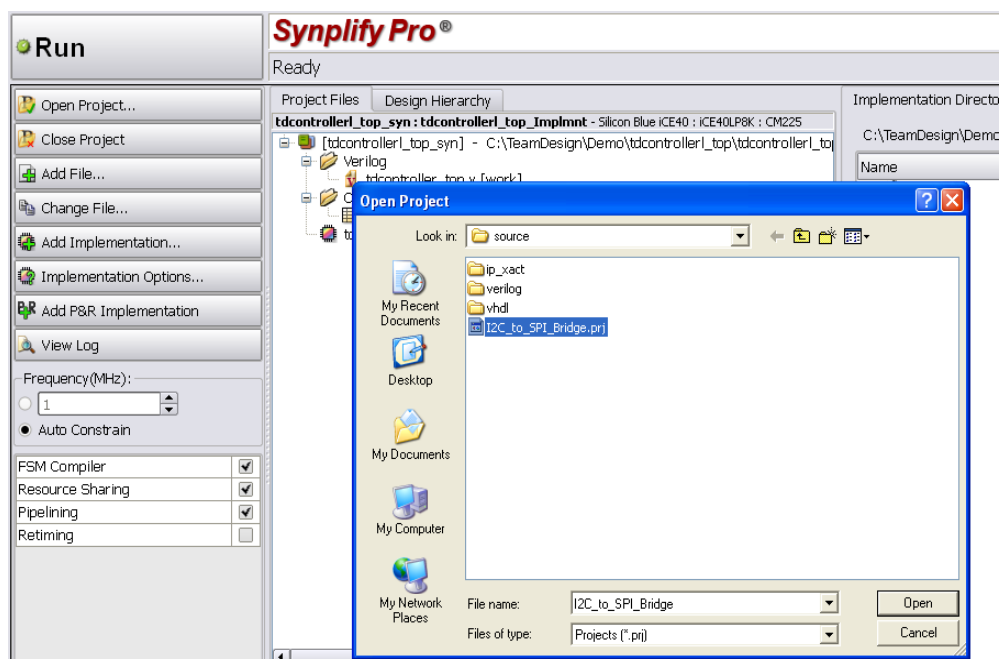
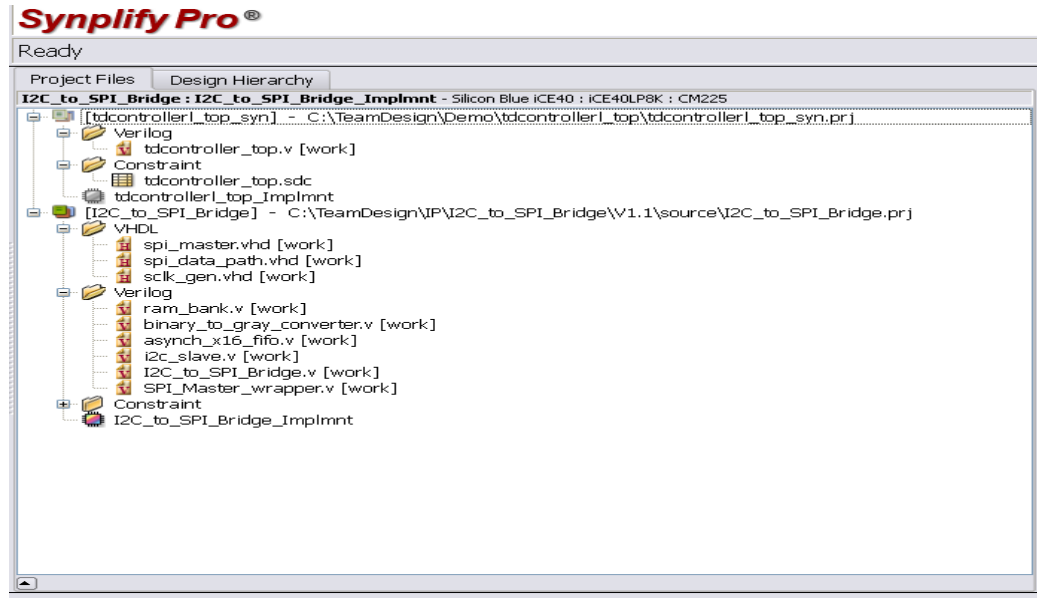

Figure 9-6: Select the I2C_to_SPI_Bridge.prj file
Figure 9-7 : Created IP Block Project
2. In Synplify Pro, click on the “Open Project” icon. Select “Existing Project” in the “Open Projects” dialog box. Browse to the “<user_IP_dir>/IP/I2C_to_SPI_Bridge/V1.1/source” location and add the existing “I2C_to_SPI_Bridge.prj” file as shown in Figure 9-6. This opens the “I2C_to_SPI_Bridge” project in Synplify Pro and automatically imports the required source files. See Figure 9-7.